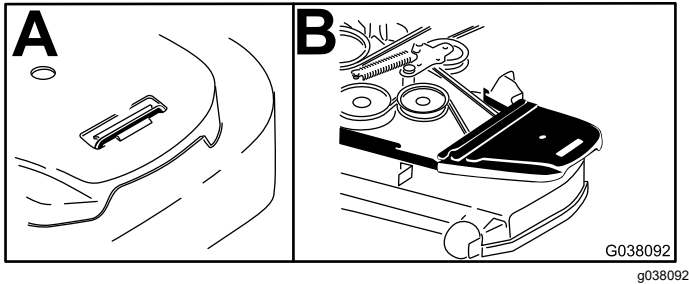

Figure 19
2. Remove the right belt cover (Figure 19).